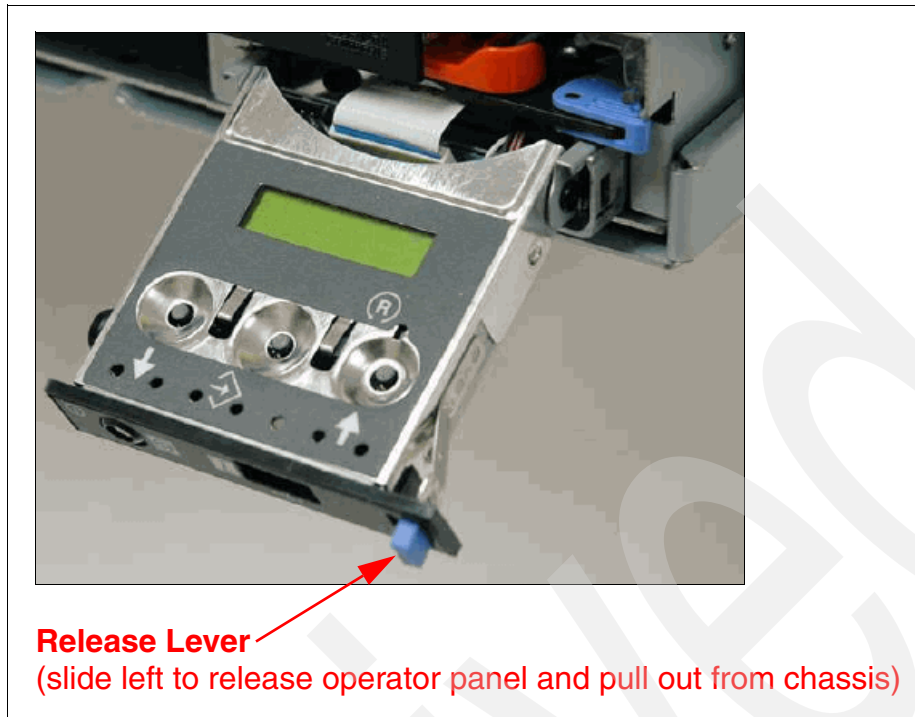

Figure 4-6 Operator panel is pulled out from the chassis
- ▶ By pulling it out to access the switches and view the LCD display. Figure 4-6 on page 157 shows that the operator panel on a Power 720 and 740 is pulled out.